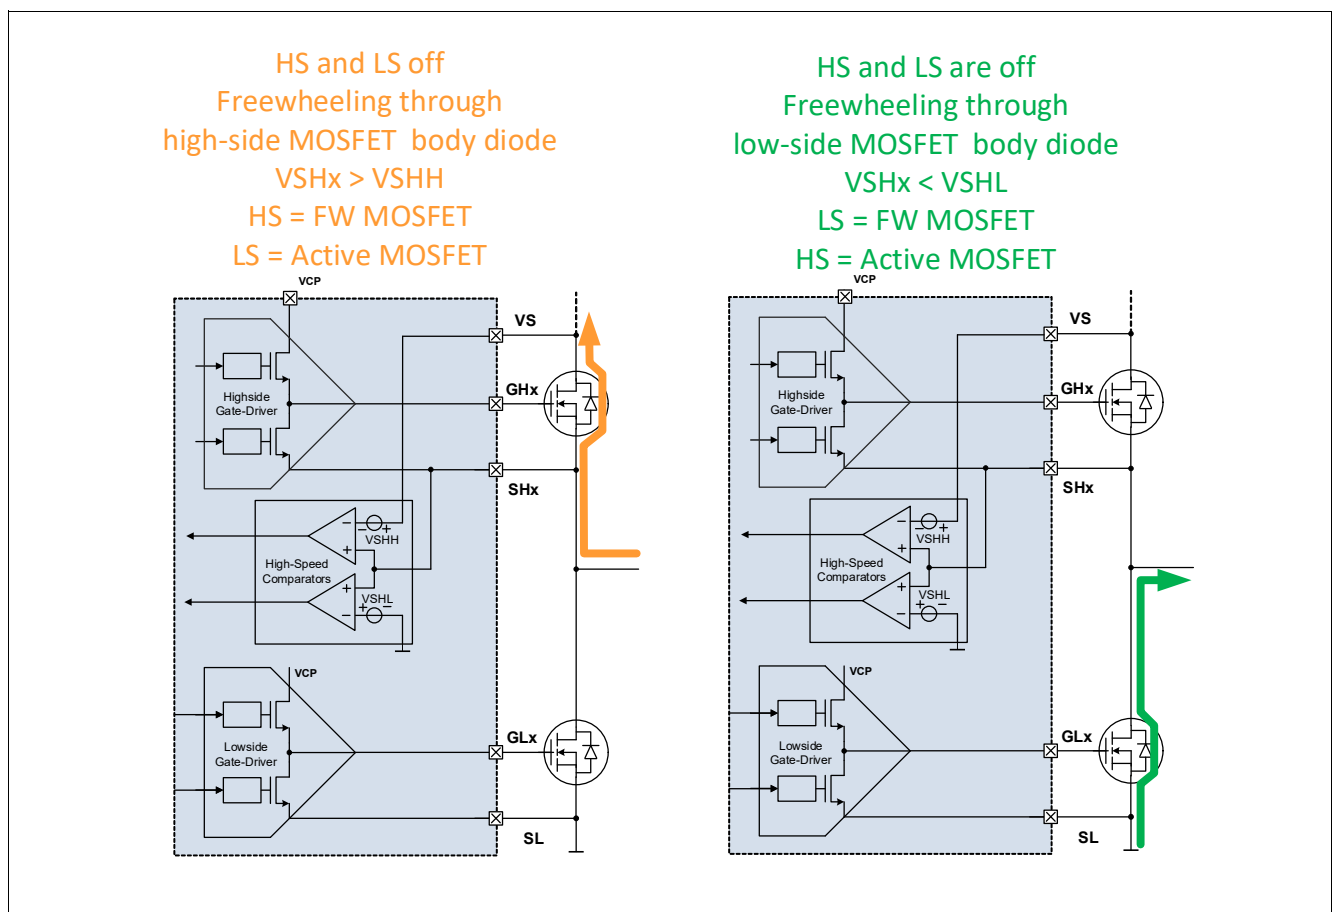

Figure 51 Detection of the active and FW MOSFET (**EN_GEN_CHECK** = 1)- Principle
If **EN_GEN_CHECK** = 1, right before each MOSFET activation, the device detects which MOSFET of the half-bridge is the active MOSFET and which MOSFET is the free-wheeling (FW) MOSFET (**Figure 51**):